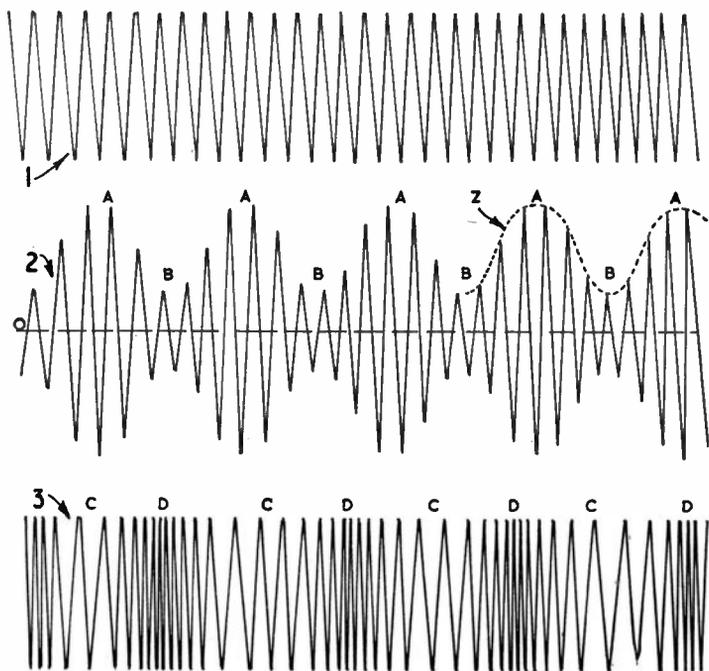
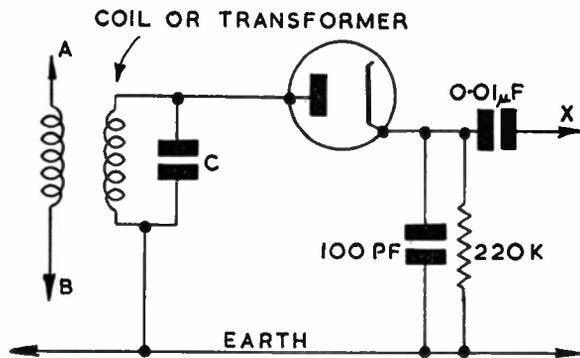

Fig. 1—Amplitude Modulated and Frequency Modulated signals
Fig. 2—Amplitude Modulation detector
The suggested measurements are shown in Fig. 1, the 'vans' being approximately 18 in. square and 21½ in. high, giving good storage space for small toys. In the side view the ends of the desk are omitted to show the vans.
The 'vans' are made up as plain boxes to the measurements seen in Fig. 1. The sides and bottom are ½ in. plywood and the back and front are ¼ in. Glue and screw the sides to the bottom, then glue and screw the front and back to the sides and bottom to complete the box.
A radio transmitter broadcasts a radio wave, which is an oscillation like the wave (1) in Fig. 1. During silent intervals when no sound is heard with the receiver, the radio wave is of unchanging strength (or amplitude) as at (1).
also like (1) in Fig. 1. The waves are arising much more rapidly, because the transmitter is working on a very high frequency, or short wavelength.
If a single note is used to modulate the radio wave, it then resembles (2) in Fig. 1. The waves rise to the peaks A, and fall away to lower power in the dips B. This happens with a speed which corresponds to the audible note which is transmitted.
If musical instruments are playing, or if speech is being radiated, the actual waveform is very complicated, as it contains many frequencies at the same time. In Fig. 1, (2) represents a pure note only.
Fig. 2 shows an amplitude modulation detector, which recovers the audible signal used to modulate the radio wave. In a simple receiver, A could go to an aerial, and B to earth. The coil could be tuned by a variable capacitor C, to select the wanted station.
The diode shown is a valve, but crystal diodes work in a similar manner. The diode allows current to pass in only one direction. This cuts off one half of all the waves in (2), Fig. 1. This can be represented by placing a piece of paper on the dotted line (O) so that all the lower parts of the waves are covered.
The pulses above the dotted line charge up the 100pF capacitor in Fig. 2, so that the actual voltage across it resembles Z in Fig. 1. This is the modulation envelope, or original tone. It could be heard with phones. It can be taken from X in Fig. 2, to an amplifier, to work a loudspeaker.
In larger receivers, other valves will be used before the detector. If so, A in Fig. 2 will usually go to high tension positive, while B goes to the valve anode. The coil may be tuned to the wanted station. Or it can be permanently tuned to one frequency, and a stage called a 'frequency changer' can change the frequency of any wanted station to this fixed frequency.
During silent intervals, the FM wave is like (1) in Fig. 1. When a tone is used to modulate the wave, the frequency is changed, as at (3) in Fig. 1. Here, the frequency of the waves drops at the points C, and increases at the points D.